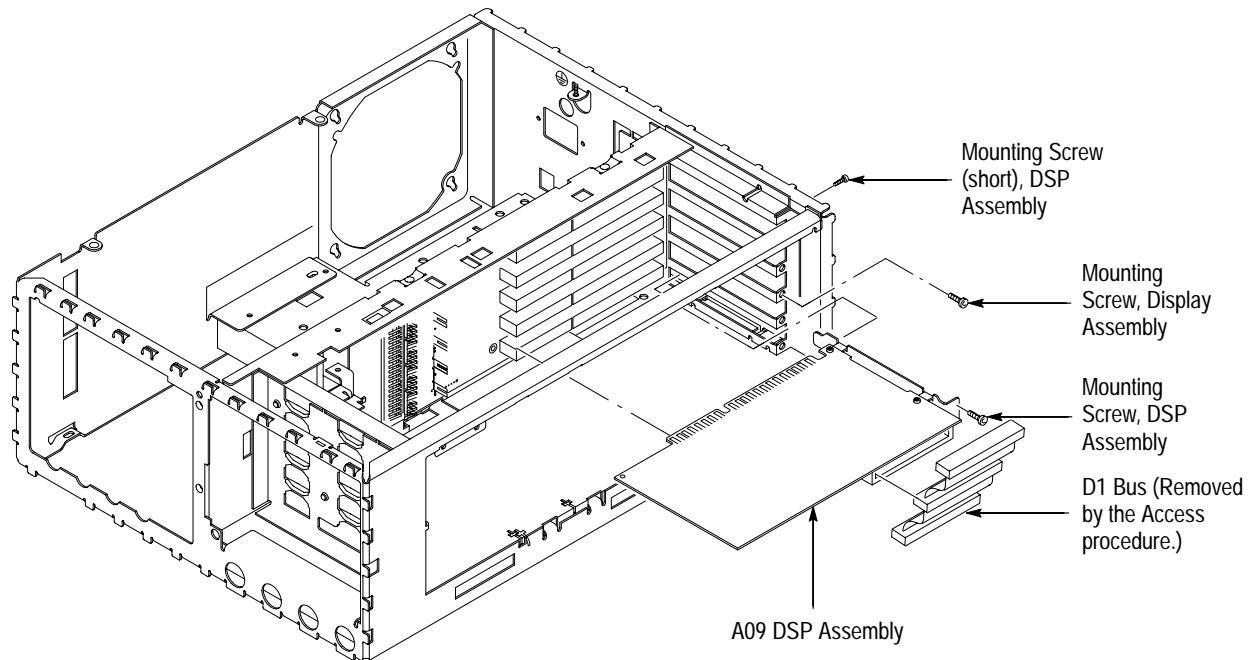

Figure 6-18: A09 DSP Assembly Removal
4. *Remove the DSP Assembly:* Use Figure 6-18 as a guide perform the following substeps: